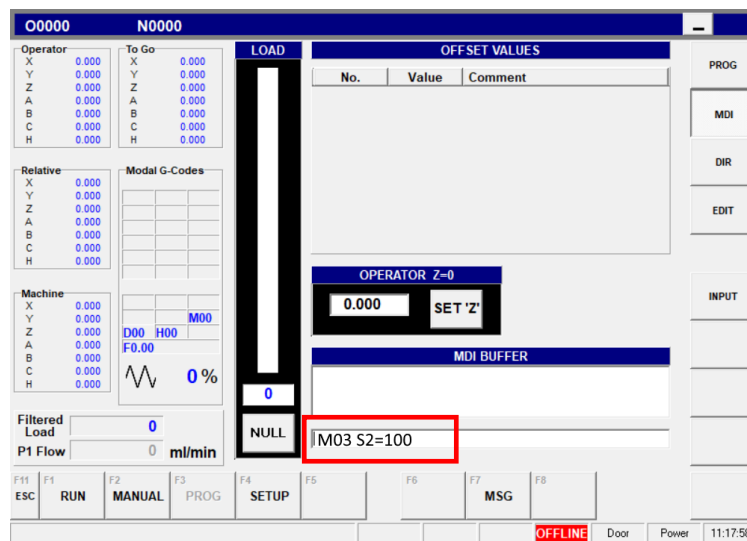

Figure 6 - MDI command line
11. Type “M03 S2=100” at the “MDI” command line and then press “Enter”. See *Figure 6 - MDI command line.*